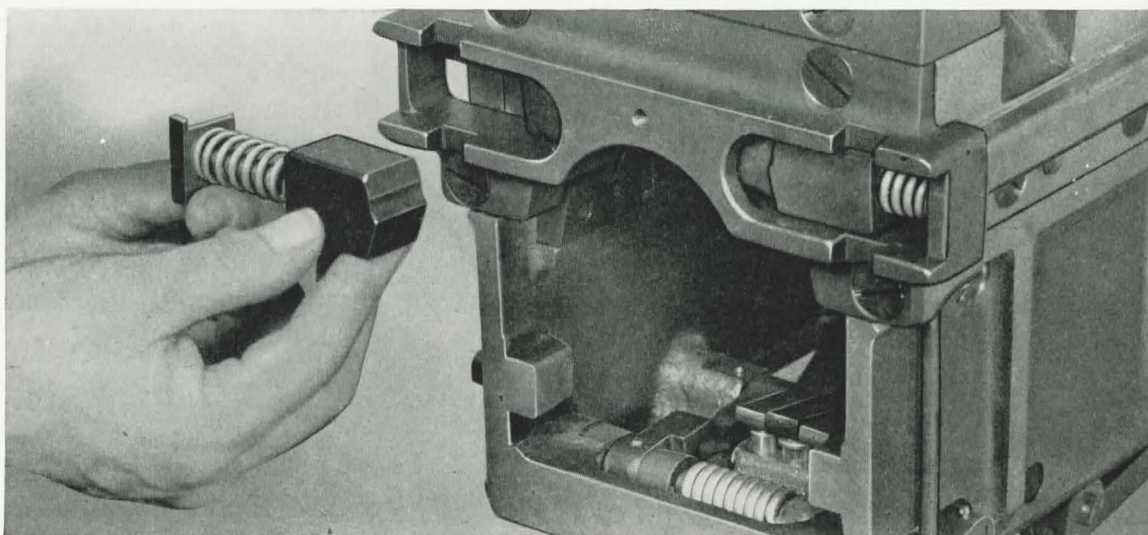

Figure 61
- (1) Remove the cross piece cover, the plunger, the spring, and the seat, **Figure 61**.
- (2) Remove the cross piece.
- (3) Remove the frame assemblies.